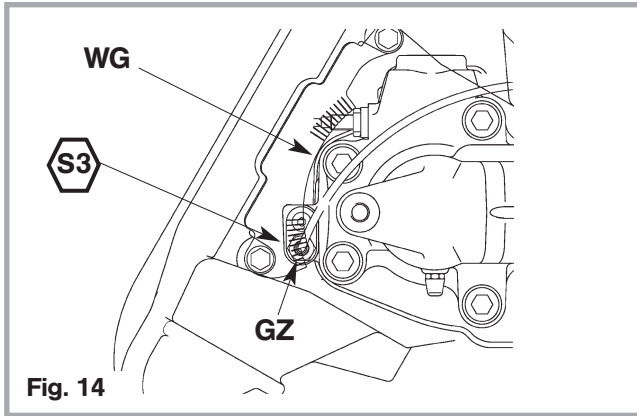

Fig. 14
- Segments **GZ** of adjustmentplate **WG** that are not required can be bent outwards from sensor **S3** inner edge using suitable tool (Fig. 14) until the signal in the Display lights up